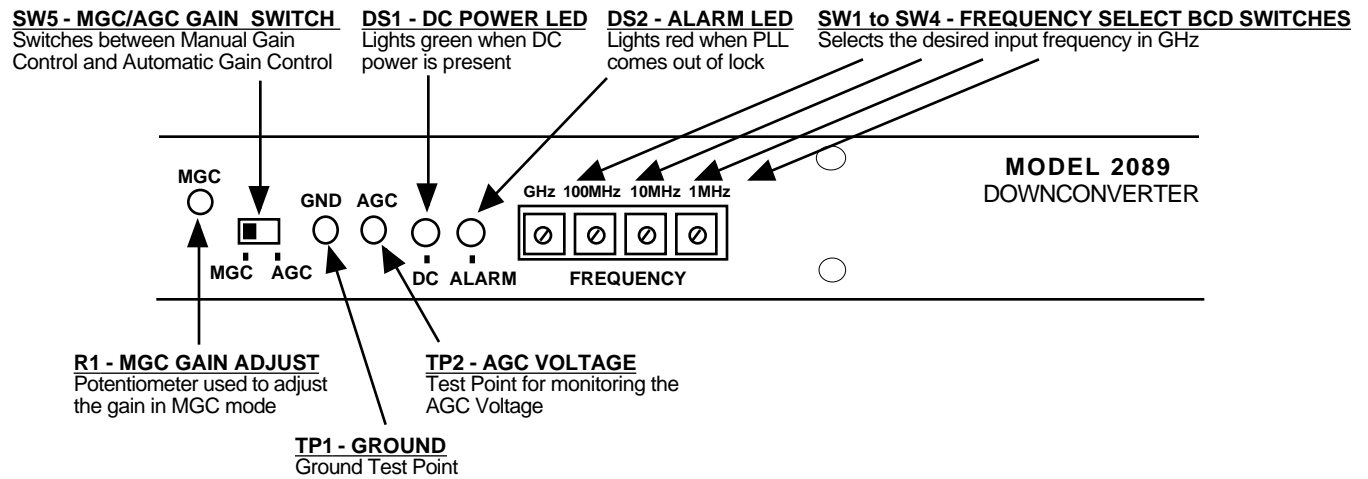

FIGURE 2.3 2089-24A Front Panel Controls and Indicators
2.3 Front Panel Controls and Indicators - Figure 2.3 shows the controls and indicators located on the front panel.
- 2.) Select MGC or AGC with toggle switch SW5 (Figure 2.3).
- 4.) Set BCD switches SW1 to SW4 to the desired input frequency (Figure 2.3).